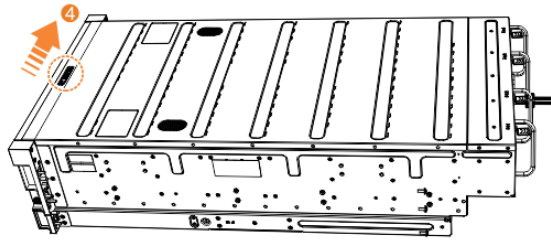

Figure 112. Locking the top cover
10. Lock the cover into position by sliding the release lever 4, as shown in Figure 112 on page 171